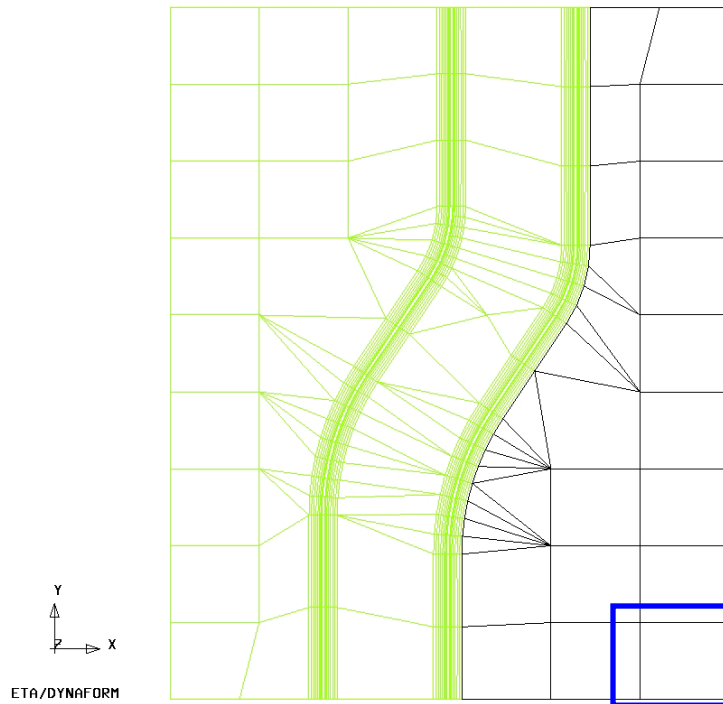

Figure 43: Selecting corner element
8. Now, use your mouse cursor to pick the element (as illustrated in Figure 43) on the lower right corner of **LOWTOOL**.
All elements in the flat area before an element angle change of larger than 1° should be highlighted. Compare your display to Figure 43. If your results differ, repeat the above steps.